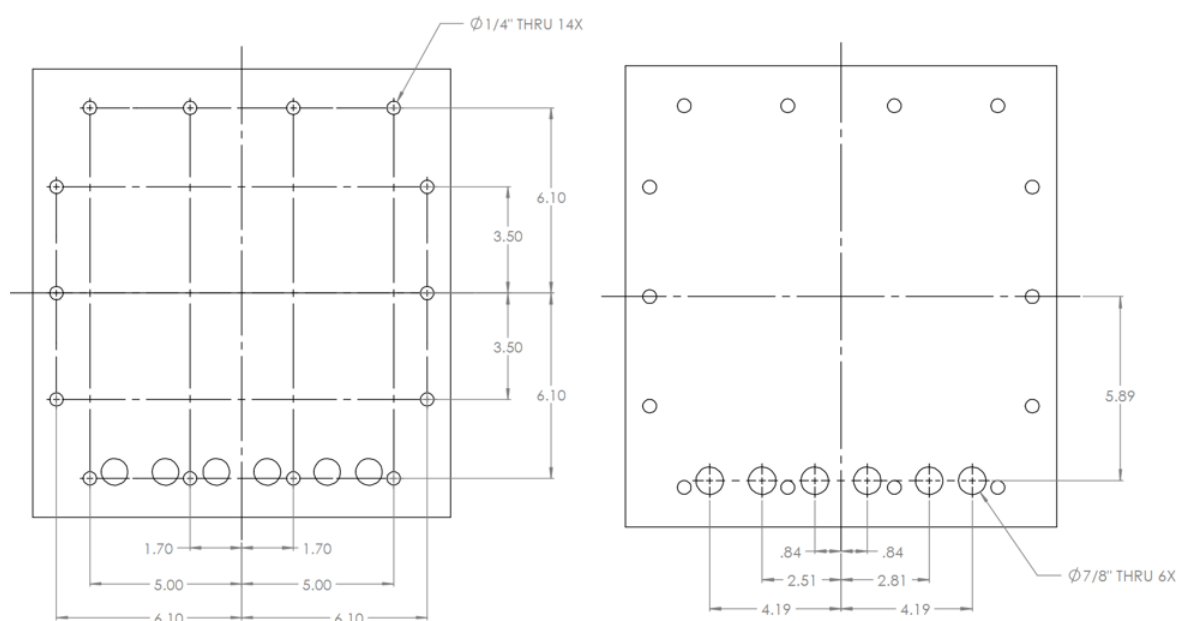

Figure 16: Hole Specification for Panel Mount
1. Pre-drill fourteen 1/4 dia. holes for mounting as seen in Figure 16 or use the drill template molded into the case after inserting the instrument into the panel.